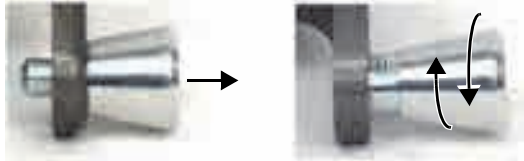

Figure 2-6 Pull out and rotate slightly to latch the link knobs to the open position.
4. Using the link knobs, assemble the selected links together (see Figure 2-6 on page 27).